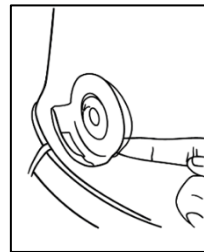

Figure 10 Remove Adhesive
3. Using your finger, gently work between the adhesive and your skin to loosen it before pulling it off, as shown in Figure 10.